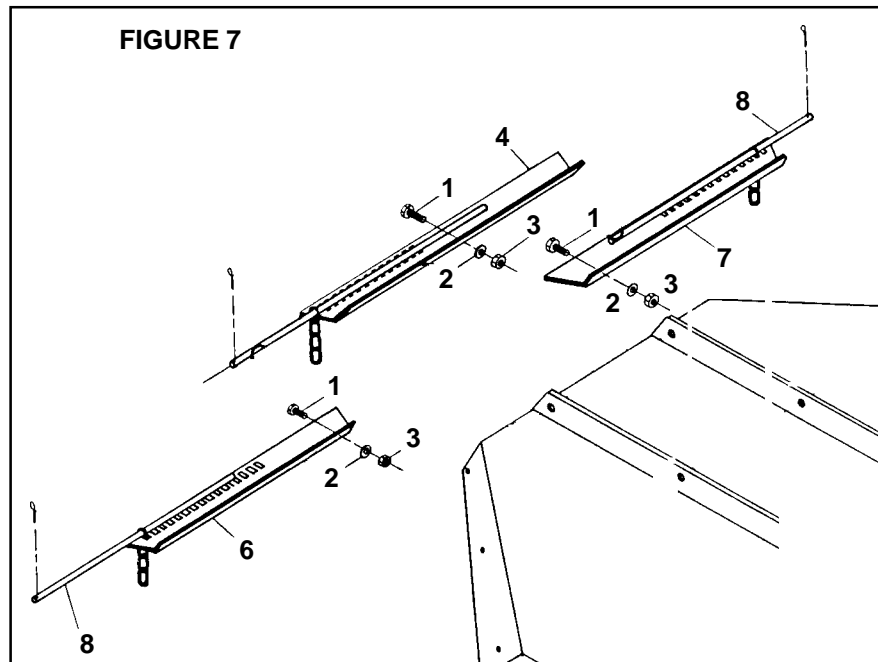

FIGURE 7
2. Rear chain shield is supplied in three assemblies. The center bracket (#4) is longest in length. The remaining two pieces (#6 & #7) match with ends of center bracket. All brackets must be installed so that chain retaining rod (#8) is on top of brackets. Install with (#1) 7/16 x 1-1/4 capscrews, (#2) lockwashers, and (#3) nuts. **Figure 7.**